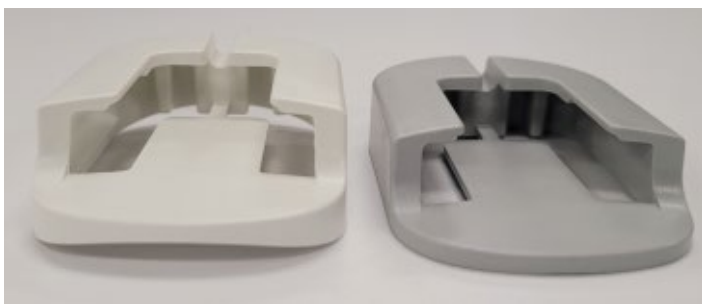

Figure 16. The sensor holders are available with both a curved back and a straight back (left and right respectively in the photograph).
- The Sensor is sensitive to intense ultraviolet (UV) light. Therefore, the Sensor should never be exposed to direct sunlight for extensive periods of time. Accordingly, if it is intended to use the sensor holder for long-term storage, the chosen location should not be in the path of direct sunlight.
- Select a sensor holder based upon the chosen location. The sensor holders are available in two shapes depending upon the surface of the chosen location. See Figure 16 below.